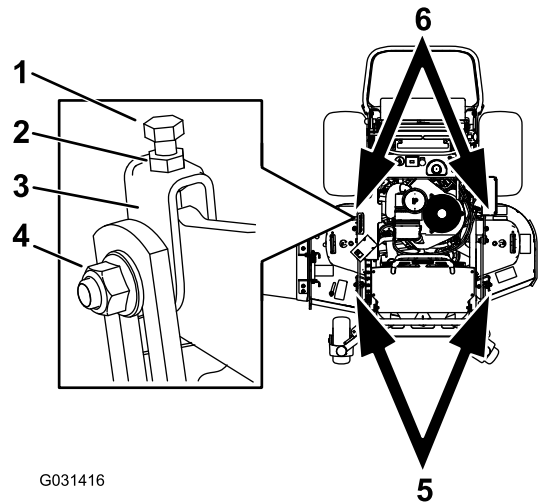

Figure 4
- Loosen the jam nuts and side bolts in the yokes for the deck chains and linkages (Figure 4).
- Rotate the top bolt of the yokes clockwise until there is no slack in the chains and linkages (Figure 4).
- Tighten the jam nuts and side bolts (Figure 4).